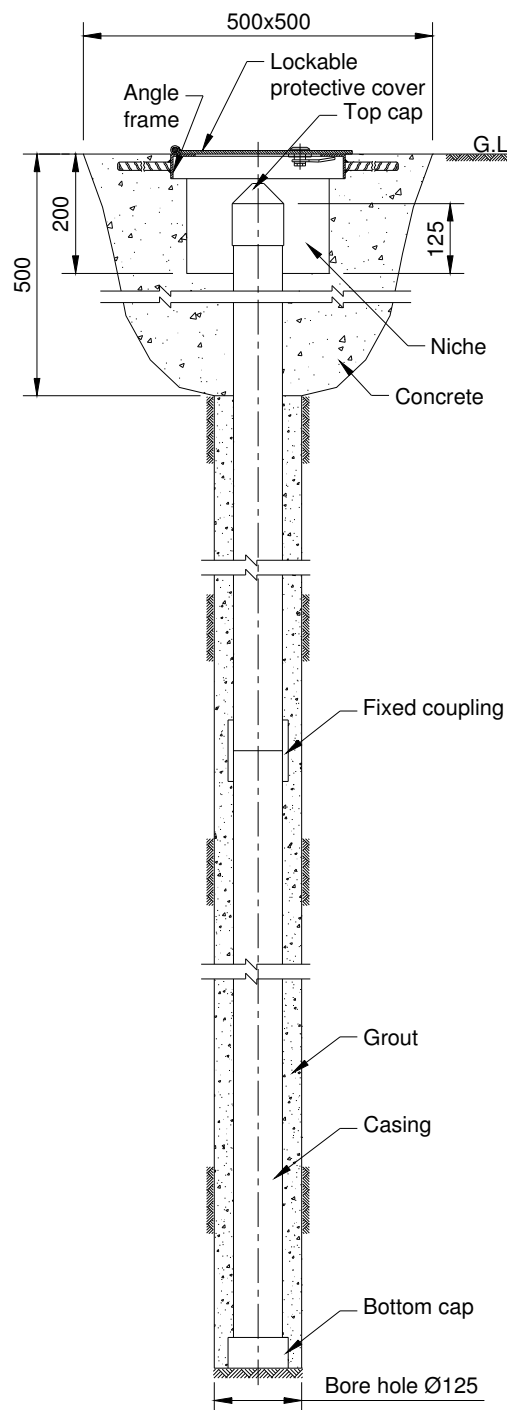

Figure 5.9 Typical installation in borehole
5.2.8 Fix protective cover in concrete platform on top of borehole. Protective covers feature a universal key and dust protection for lock (always put back dust protection after locking to avoid lock jamming). Typical dimensions for concrete platform are given in figure 5.9. These may vary depending on local site conditions.
NOTE: Top of uppermost casing should be 125 mm above base of niche as shown in figure 5.9. The niche is around 200 mm deep. This is necessary for fixing pipe extension jig over casing for taking readings.